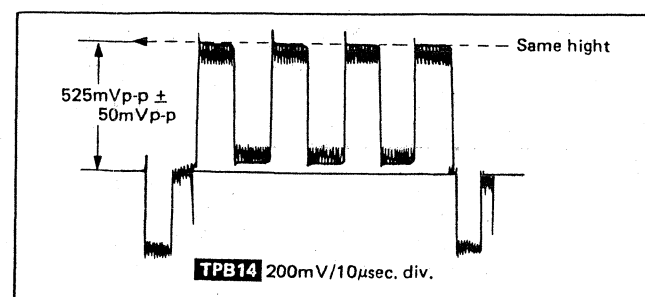

Fig. 11
- Adjust Chroma control (R5804) so that the waveform **TPB14** becomes as shown in Fig. 11.